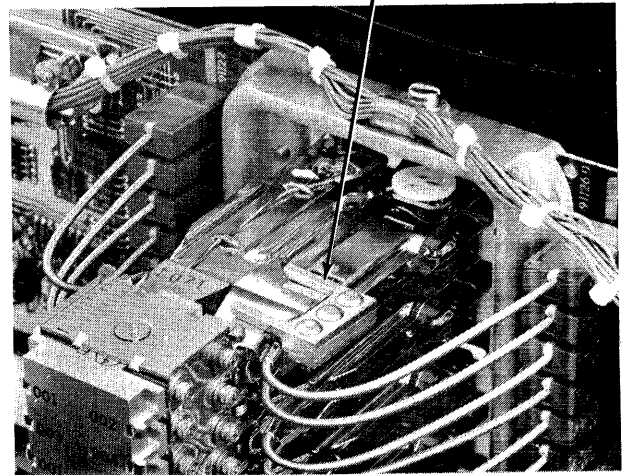

Figure 5-75. Head Camming Tool Installation
- d. Install head camming tool on head assembly (see Figure 5-75).